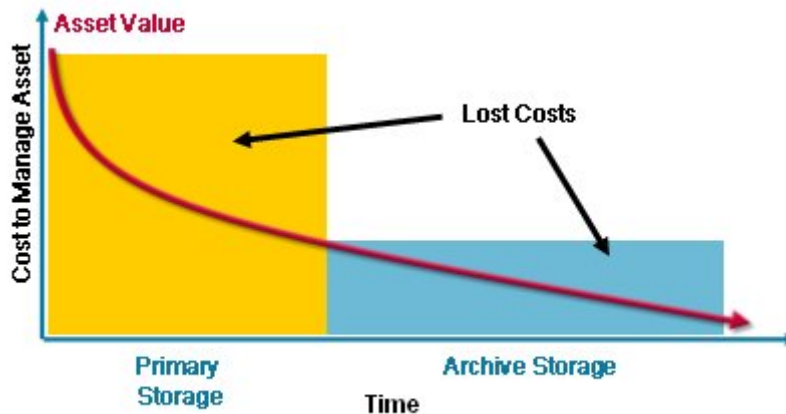
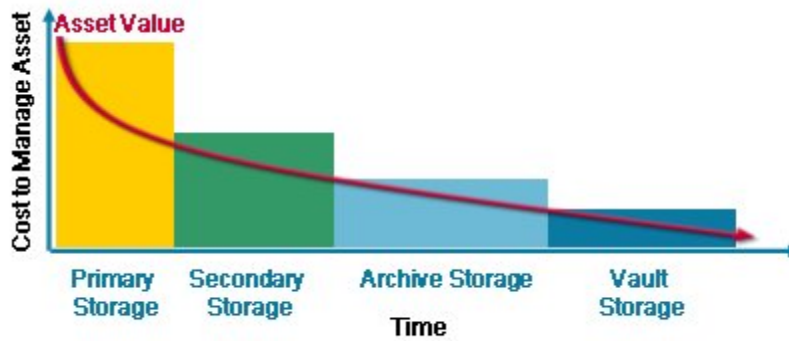

Figure 1
Figure 2
Every digital asset has an intrinsic value to the individual or organization storing it. In many organizations, the value of a digital asset depreciates over time. As a result, storing these less frequently used files on high end disk is not economically feasible. The following graphic, Figure 1, depicts the cost of storing the digital assets on disk or tape. The yellow and blue boxes represent the fixed cost for the storage platform; the red line represents the value of an asset over time. At time 0, an asset has its highest value which exceeds the cost of the storage platform. As the asset's daily value decreases, the cost of storing the asset on primary storage becomes higher than the value of the asset itself and it makes economical sense to move the asset to a cheaper repository.
Looking at Figure 1, one other item is apparent. Even after moving an asset to an archive storage tier, there are still times when the daily asset value is lower than the storage cost and the company is paying too much to store the asset. To decrease archive costs and provide a closer match to the asset value, advanced archiving technologies now utilize multiple types of storage arranged in tiers. The types of storage may include but are not limited to Fibre Channel (FC) RAID disk, Serial ATA (SATA) RAID disk, tape libraries, and tape vaults. Figure 2 illustrates the use of multiple tiers of storage to match costs versus asset value or retrieval time. The geometry of the asset value curve is determined by the organization when considering the value of the asset against the costs of access time and the storage medium. If storage costs were negligible and independent of the type of medium, most organizations would store all assets in perpetuity on the highest performance and most reliable technology available. However, storage media can vary greatly in cost, performance, reliability, and availability. Thus new archives are embracing tiered storage as the optimum solution to economically deliver maximum storage capacity and bandwidth.